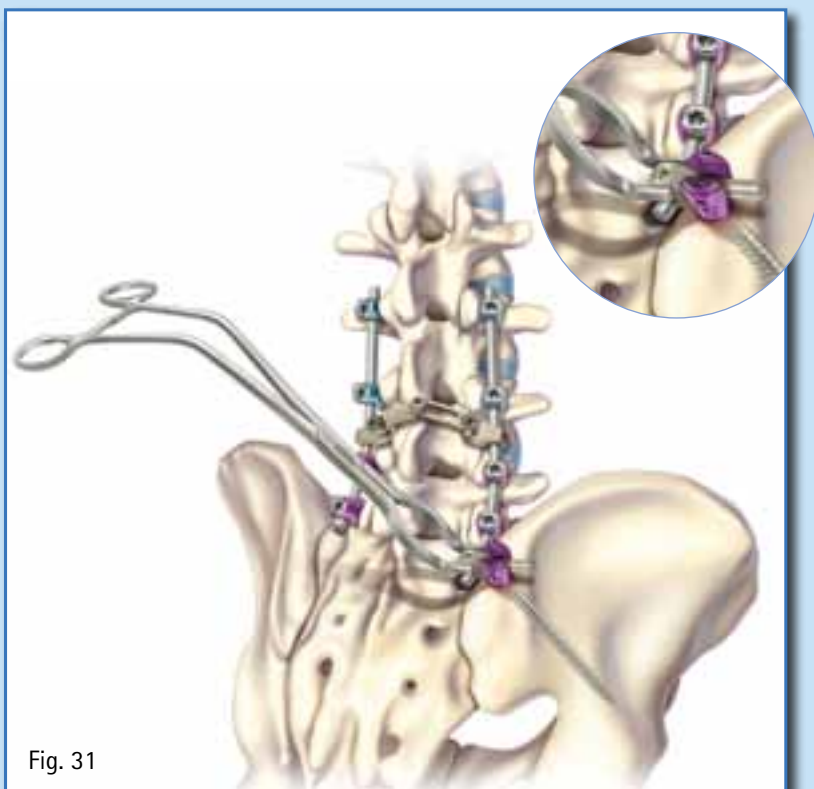

Fig. 31
- Use the rod-to-rod connector inserter (FW493R) to grab the lateral offset connector and attach it to the rod from the main construct. (Fig. 31)